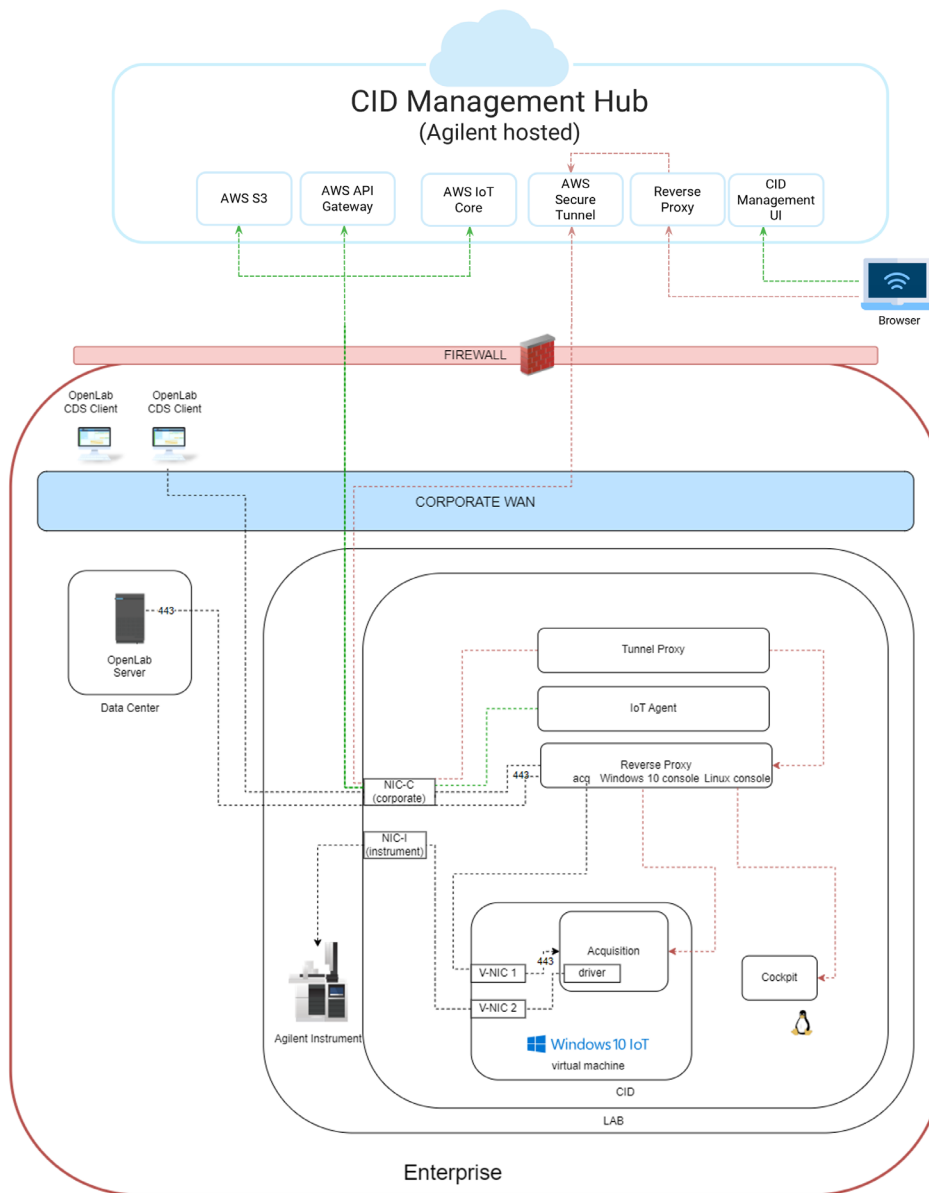

Figure 2. Network Connectivity Diagram
All incoming and outgoing connections to the CID from CDS clients are on TCP port 443 and are standard HTTPs or Secure Web Socket (WSS) connections. These are shown as dashed black lines in Figure 2. These are the same operational interfaces exposed by an AIC running in Windows, but the CID is not a Windows PC. Instead, the CID is an IoT device that natively runs a version of Linux. A network scan of the CID shows only a single (Linux) IP address with only port 443 open. CDS client connections are served by an embedded Windows virtual machine (VM) that does not have an IP address visible to the corporate WAN. The CID Reverse
This IoT connection from the CID to the CID Hub is not necessary for using CDS (i.e., instrument control, running samples, etc.). The IoT connection is required for managing CIDs from the CID Hub. These connections are shown as green dashed lines in Figure 2.
Only authorized users as mentioned above are allowed to initiate and access the console, which is only accessible while they remain logged in and on the CID page (CID from which the session is initiated) on the CID management hub. These IoT connections are shown as red dashed lines in Figure 2. These connections are Secure Web Socket connections established from the CID to the CID Hub. Technical details about AWS Secure Tunneling are available at <https://docs.aws.amazon.com/iot/latest/developerguide/secure-tunneling.html>. Users can see if IoT connections are active from the CID Hub, and can terminate any active connection.